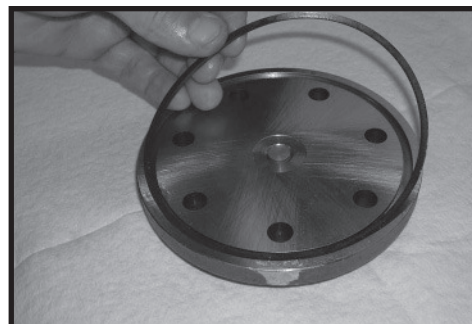
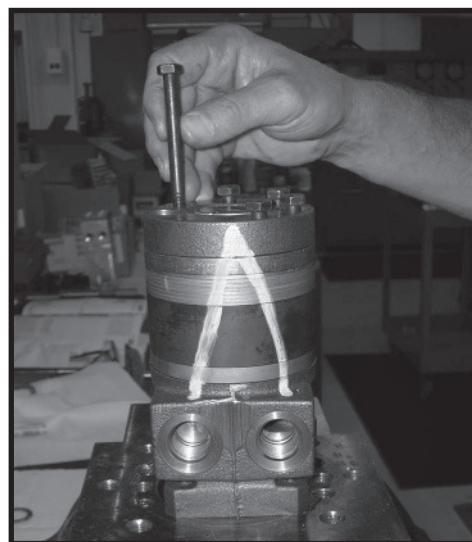

Figure 63
Figure 65
22. Assemble a **new** seal ring (4) into end cover (2) and assemble end cover over the alignment studs and onto the commutator set. SEE FIGURE 63, 64. If the end cover has only 5 bolt holes be sure the cover holes are aligned with the 5 threaded holes in housing (18). The correct 5 bolt end cover bolt hole relationship to housing port bosses is shown in FIGURE 65.